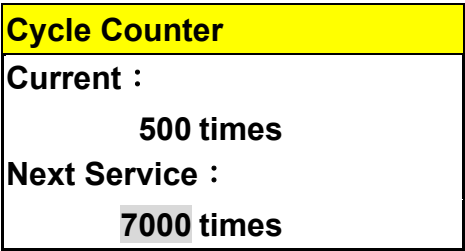

Figure 141
C. Press  or  button to change next service times, and press  button to store the parameter in Figure 141.